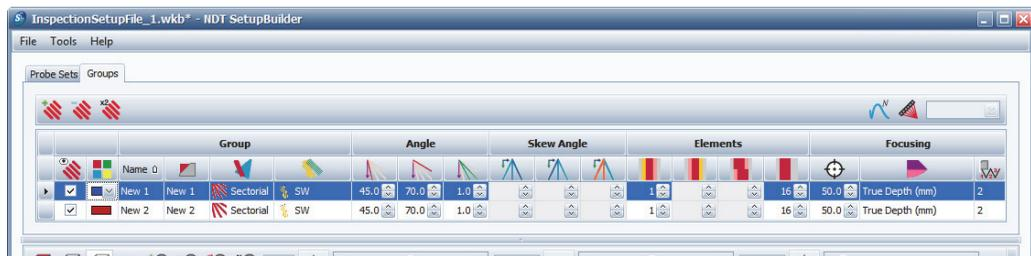

Figure 10-12 Selecting a group on the Groups tab for configuring parameters
1. From the **Groups** tab list, select the group you want to configure (see Figure 10-12 on page 146).